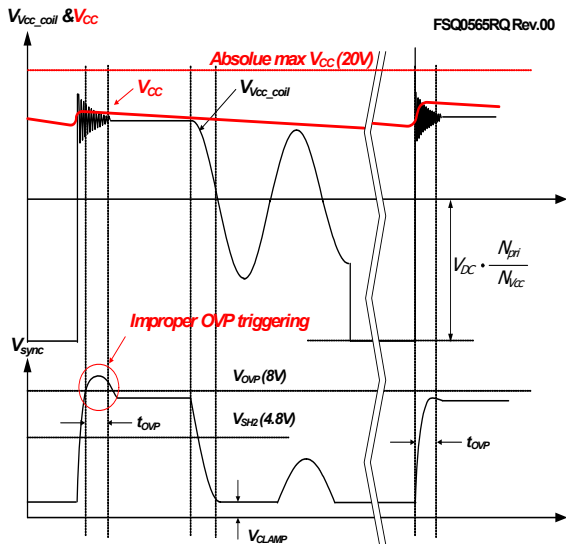

Figure 33. OVP Triggering of FSQ0565RQ
**4.4.2 Sync Over-Voltage Protection (OVP) of FSQ0565RQ:** If the secondary-side feedback circuit malfunctions or a solder defect causes an opening in the feedback path, the current through the opto-coupler transistor becomes almost zero.  $V_{FB}$  climbs up in a similar manner to the overload situation, forcing the preset maximum current to be supplied to the SMPS until the overload protection triggers. Because more energy than required is provided to the output, the output voltage may exceed the rated voltage before the overload protection triggers, resulting in the breakdown of the devices in the secondary side. To prevent this situation, an OVP circuit is employed. In general, the peak voltage of the sync signal is proportional to the output voltage and the FSQ-series uses a sync signal instead of directly monitoring the output voltage. If the sync signal exceeds 8V, an OVP is triggered, shutting down the SMPS. To avoid undesired triggering of OVP during normal operation, two points are considered, as depicted in Figure 33. The peak voltage of the sync signal should be designed below 6V and the spike of the SYNC pin must be as low as possible to avoid getting longer than  $t_{OVP}$  by decreasing the leakage inductance shown at  $V_{CC}$  winding coil.